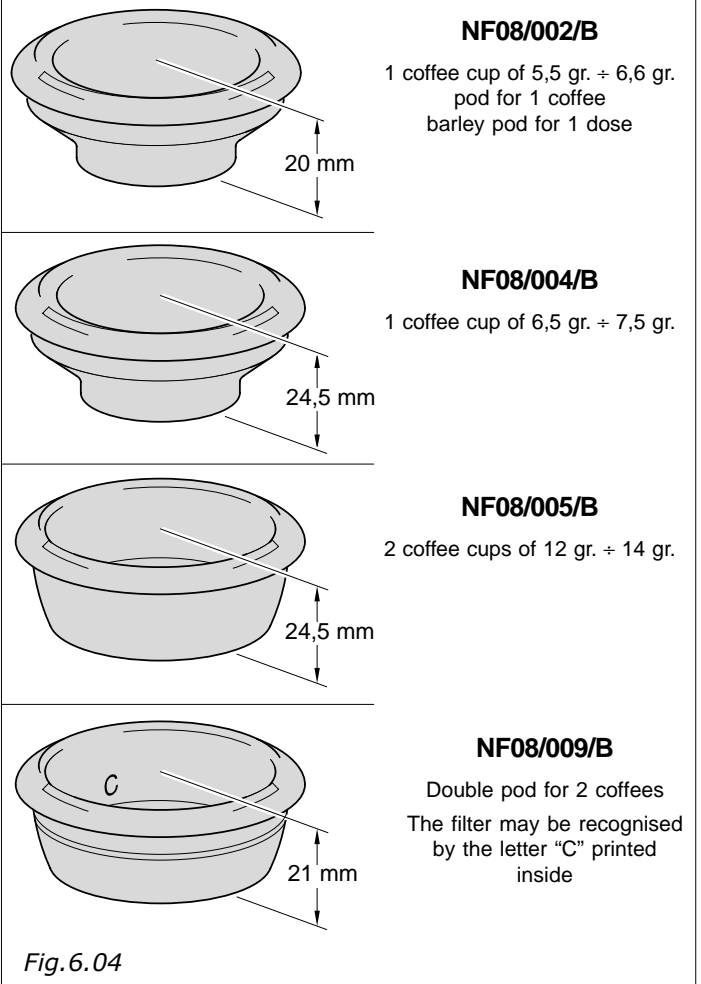

Fig.6.04
Depending on the quantity of coffee ground, the appropriate filter must be as shown to avoid (Fig.6.04) that, once the coffee has dripped out, the leftover powder remains attached to the nozzle.
- Select the correct filter and place it into the filter holder, use the small filters for one cup and the big filter for two cups (Fig.6.04).